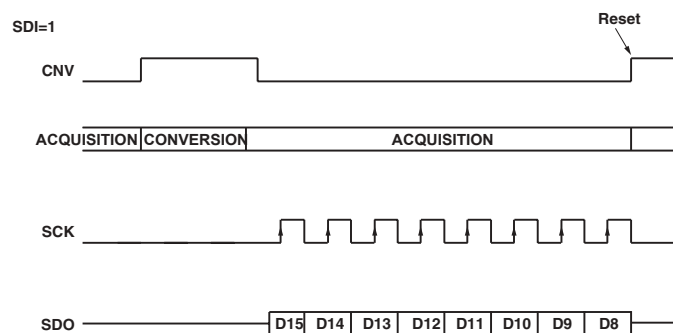
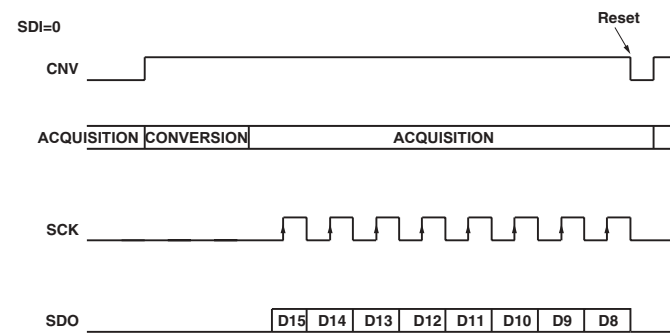
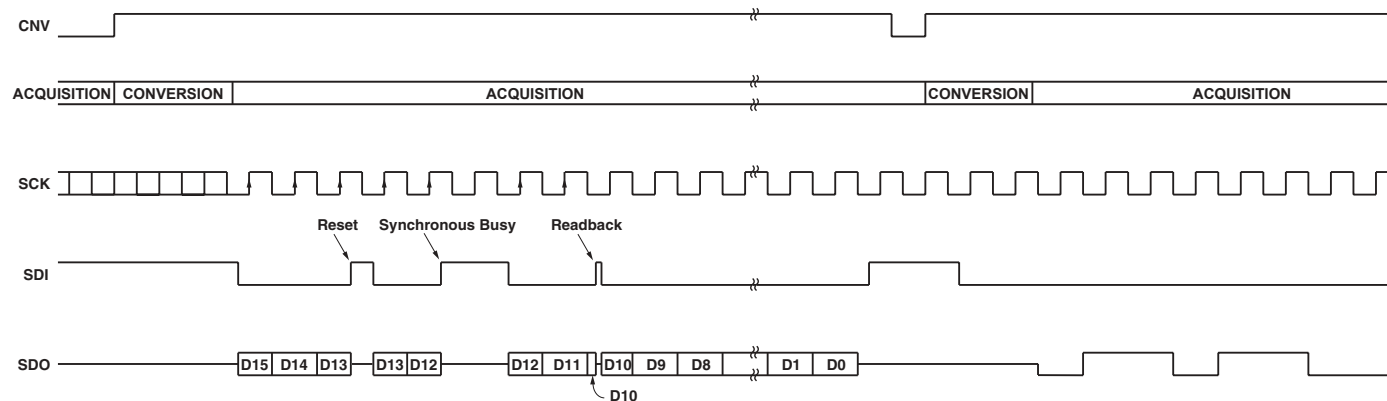

Figure 17. Example of programming configuration using CNV in \overline{CS} mode.
Figure 18. Example of programming configuration using SDI in Chain mode.
Figure 19. Example of programming configuration using SDI in \overline{CS} mode followed by a configuration readback.
- In \overline{CS} mode, when CNV is low and SDI is high (figure 17), or when SDI is low and CNV is high (figure 19). If CNV and SDI are both low, the previous SCK rising edges which occurred during the current part selection are ignored and the configuration is not changed when the part is deselected.
- In Chain mode, when CNV is high (figure 18).
- In \overline{CS} mode, when CNV goes high while SDI is high (figure 17), or when SDI goes high while CNV is high (figure 19).
- In Chain mode, when CNV goes low (figure 18).
In \overline{CS} mode using CNV to select the part (figure 17) or in Chain mode (figure 18), only one single change of the configuration can be done per conversion. However, a “Reset to default settings” command (3 or 8 SCK pulses) changes the configuration to a factory predefined configuration (warp mode, High bandwidth, asynchronous busy indicator and falling SCK driving edge). SPI compatible digital hosts offer the possibility to send 8 SCK pulses by software. A truncated valid ADC result is still available on the SDO output.
In $\overline{\text{CS}}$ mode, using SDI to select the part, a complete new configuration could be selected during a single conversion as shown in figure 19. In this case, the selected feature depends on the total number of SCK rising edges seen since the end of conversion. The data on the SDO output is still the valid ADC result and the complete 16 bits result can be read. In the example shown figure 19, the selected configuration is high bandwidth, synchronous busy indicator, falling SCK driving edge, warp mode and the configuration will be readback after the subsequent conversion.
When the readback command is selected, the configuration will be output on the SDO pin in place of the ADC result during the data read of the following conversion as shown in figure 19.